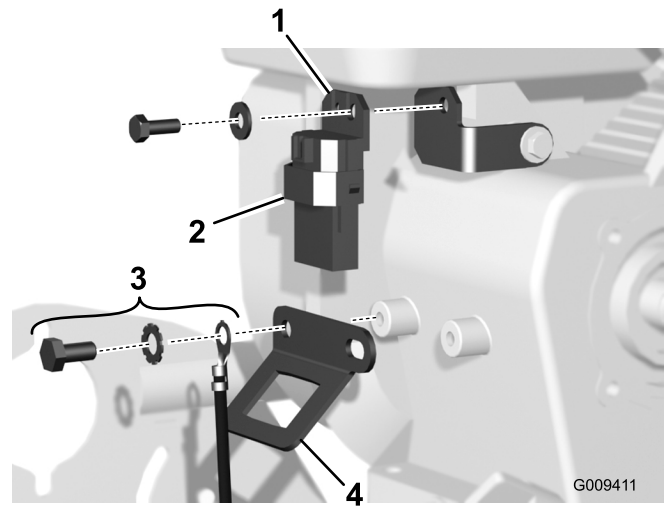

Figure 4
1. Mount the safety module, removed from old engine, to the back of the new engine with the screw and washer previously removed (Figure 4).
- A. Plug the wire harness connector into the safety module (Figure 4).
E. Mount the harness ground wire ring terminal to the engine boss with a external tooth lock washer and cap screw (Figure 4). Use the right hand boss on the rear of the engine.